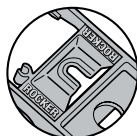

Figure 2
- When "ROCKER" appears through the cover, the lockout device is set for a rocker or paddle-style switch. (See Figure 2)